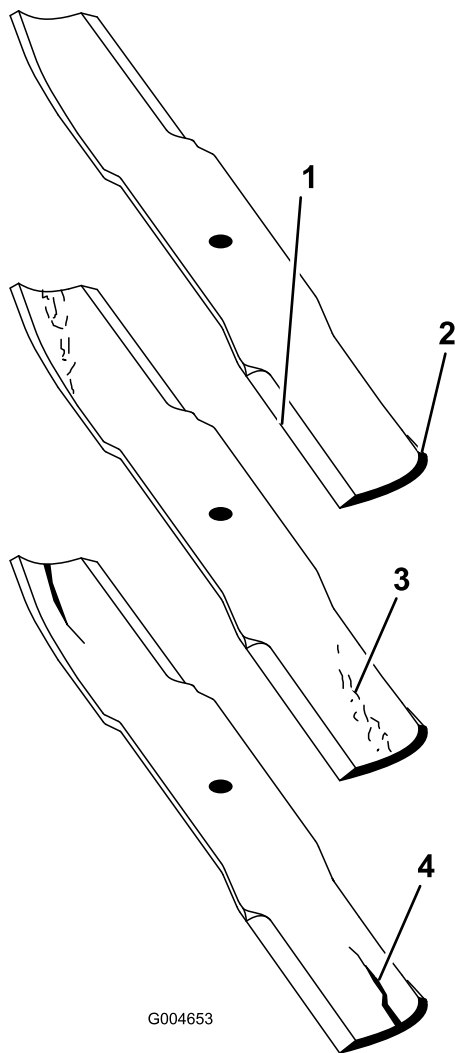

Figure 26
3. Examine the cutting ends of the blade carefully, especially where the flat and curved parts of the blade meet (Figure 26).
Note: Because sand and abrasive material can wear away the metal that connects the flat and curved parts of the blade, check the blade before using the mower. If you notice wear (Figure 26), replace the blade.